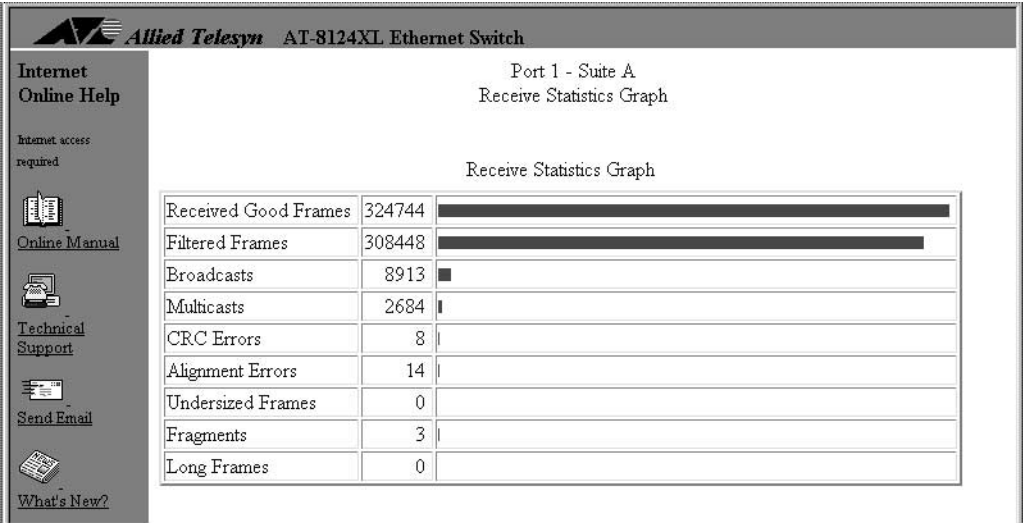

Figure 65 Graph of a Port's Received Frames
- a. Select *Individual port overview* and then a port. The frames statistics for the selected port display. Figure 65 is an example of the window.